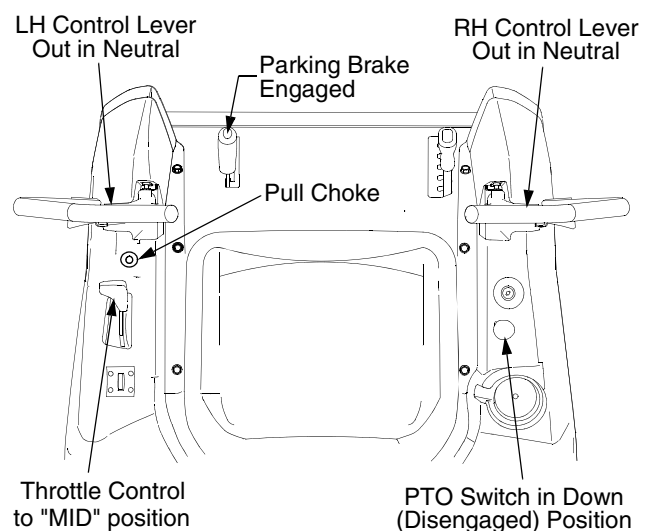

Figure 11
- Move the RH and LH drive control levers fully outward in the neutral position. Refer to Figure 11.
- Engage the parking brake. Refer to Figure 11.
- Make certain the PTO switch is in the disengaged (down) position. Refer to Figure 11.